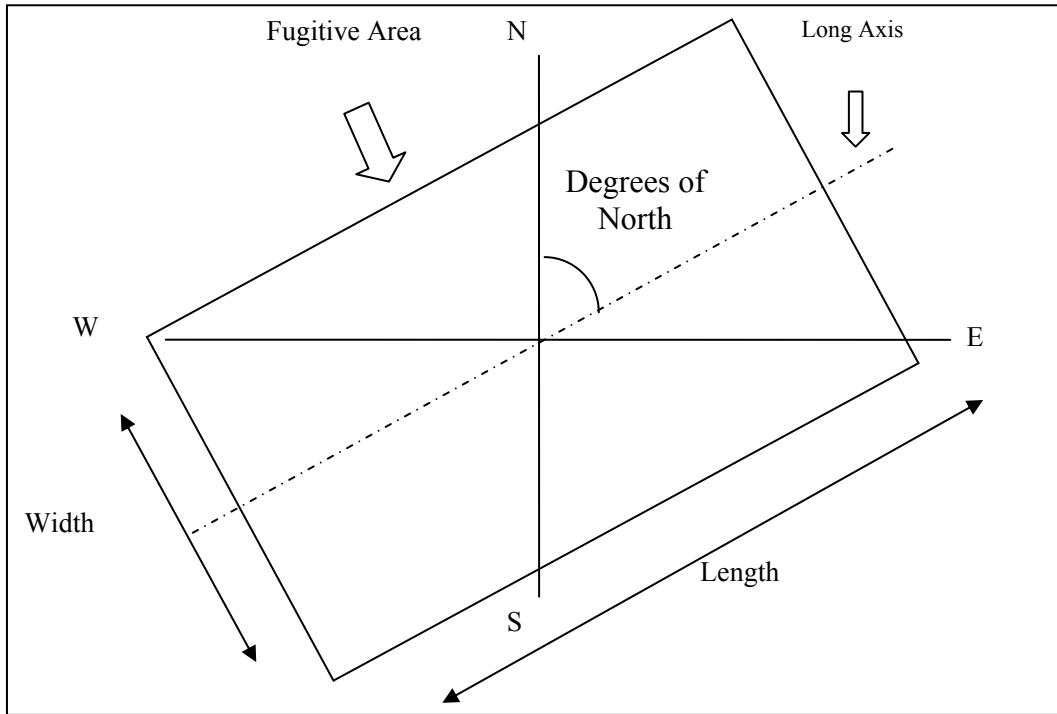

Figure 1. Orientation of Fugitive Area
- 4. Regulated Entity Reference Number (RN):** The number that Central Registry assigns to a location where a TCEQ-regulated activity occurs. If an RN has not already been assigned, contact Central Registry at 512-239-5175 to complete a Core Data Form.
- 9. Orientation:** Specify the fugitive area's long axis direction, measured in degrees of rotation from true north. The orientation may be measured in degrees East of North or degrees West of North. In Figure 1 the orientation could be described as 60 degrees East of North or 120 degrees West of North.